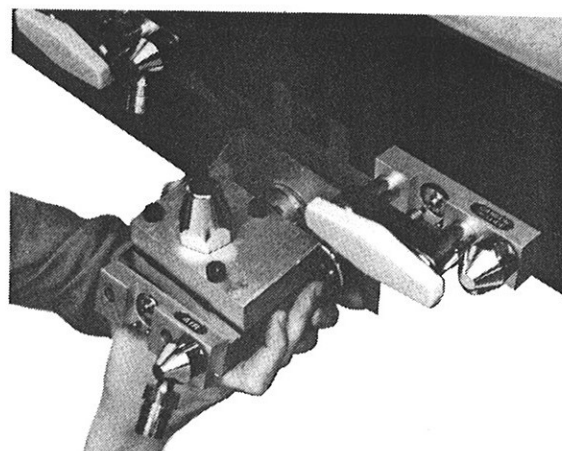

Figure 23.
6. Carefully guide the Gas Supply Module downward from the mounting panel position (see Figure 23).